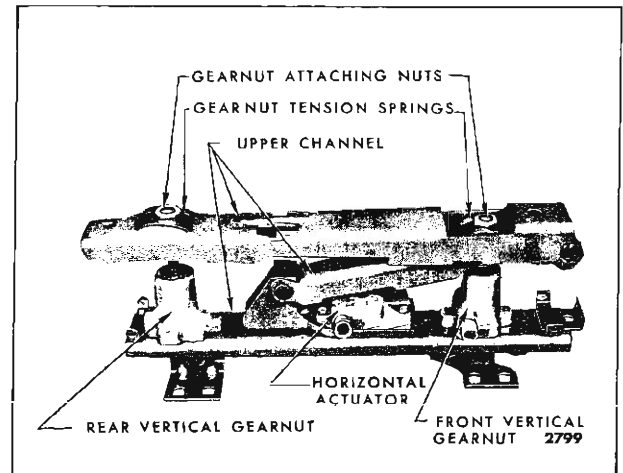
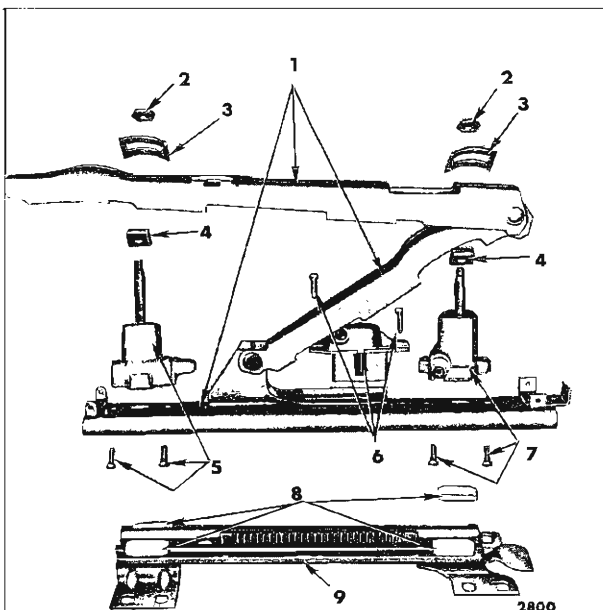

Fig. 15-18—Six-Way Seat Adjuster - "B, C & E" Styles
Fig. 15-19—Six-Way Seat Adjuster Components - "B, C & E" Styles
4. At top of adjuster remove front and rear vertical gearnut attaching nuts and tension springs (Fig. 15-18).
5. Lift front of adjuster upper channel upward; then remove screws securing horizontal actuator to adjuster upper channel assembly (Fig. 15-18) and remove actuator from adjuster.
- At top of adjuster, remove both vertical gearnut attaching nuts and tension springs (Fig. 15-19).
- Lay adjuster on its side and remove front vertical gearnut attaching screws (Fig. 15-19); then, remove gearnut from adjuster.
- If front vertical gearnut is being replaced with a new part, transfer gearnut shoulder nut and tension spring to new gearnut assembly (Fig. 15-19).
- At top of adjuster, remove both vertical gearnut attaching nuts and tension springs (Fig. 15-18). Lift front of adjuster upper channel upward; then, remove horizontal actuator attaching screws (Fig. 15-19) and remove horizontal actuator from adjuster.